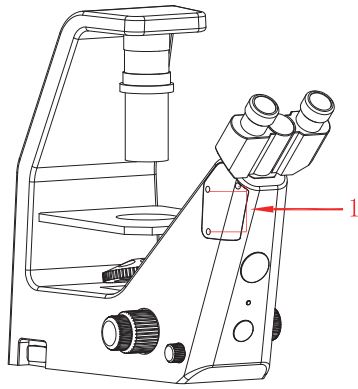

Figure 5
- 2) Take out the baffle of the microscope, as shown in Figure 5;